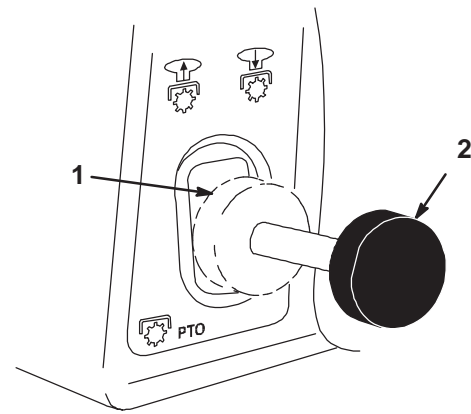

Figure 23
2. Pull the power take off (PTO) to “ON” (Fig. 23).
2. Push the power take off (PTO) to “OFF” (Fig.23).